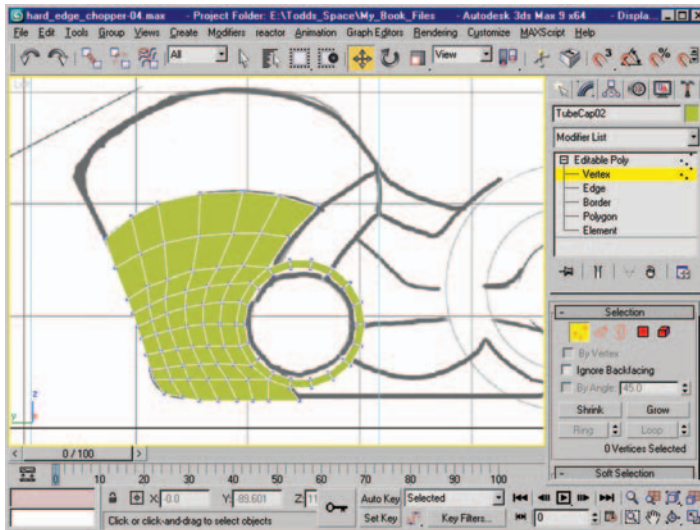

Figure 8.11 Vertices and edges after adjusting to form a cleaner curved shape.
12. The new edges that were just created will create flat spots when the mesh is subdivided, so adjust the new vertices as seen in Figure 8.11.